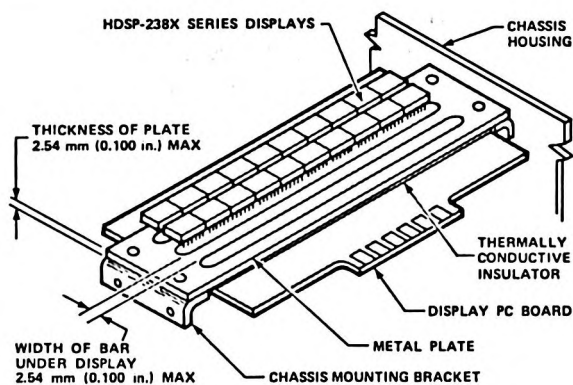

Figure 9a. Metal Plate Mounted Between Display Devices and PC Board, Mechanically Fastened to Chassis Housing.
2. Install a metal plate, or bar, between the display packages and the PC board, with the bar mechanically fastened to the chassis, as illustrated in Figure 9a.